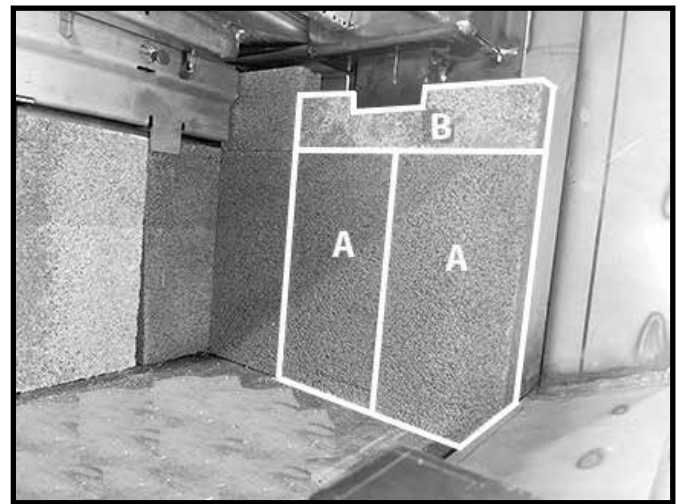

Figure 28: Right side wall B brick and final A bricks.
4. Place the "B" brick up under the baffle tube box then insert two "A" bricks while holding the "B" brick in place Figure 28.